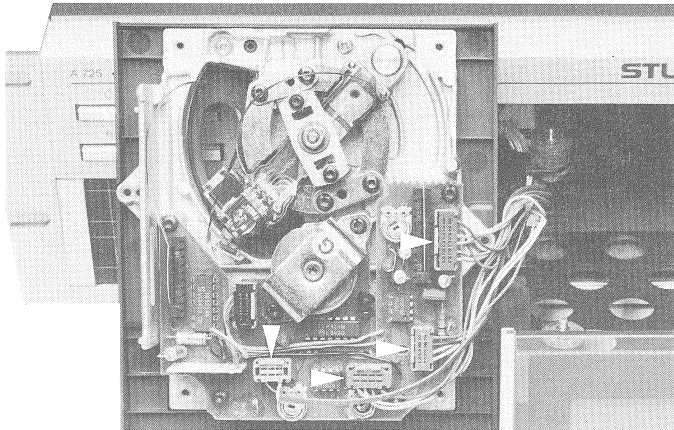

Fig.2.5
- Unfasten screws (D) and set the CD player back in its normal position on the bench (NOTE: hold the player mechanism with your hand to prevent it from falling out of the drawer).
- Detach the four connectors (see Fig. 2.5).